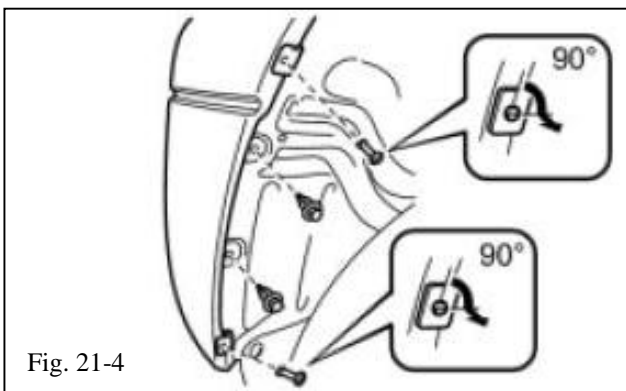

Fig. 21-4
- (1) Use a screwdriver to remove the two pin hold clips from each side (Fig. 21-4).
- (2) Use a clip remover to remove the 2 clips from each side (Fig. 21-4).